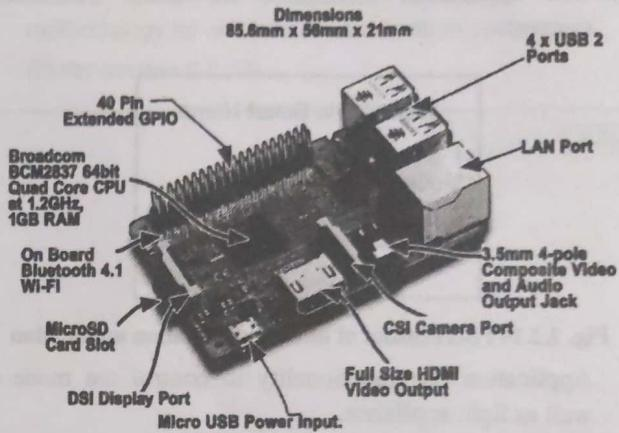

Fig. 2.2.13 : Raspberry pi 3 model B
- To store the operating system and program memory Secure Digital (SD) cards are used. Raspbian OS which is a Debian-based Linux operating system is recommended OS by Raspberry Pi Foundation. Some other third party operating systems like RISC OS Pi, Diet Pi, Kali Linux can also be run on Raspberry Pi.
- Fig. 2.2.13 shows Raspberry pi 3 model B.